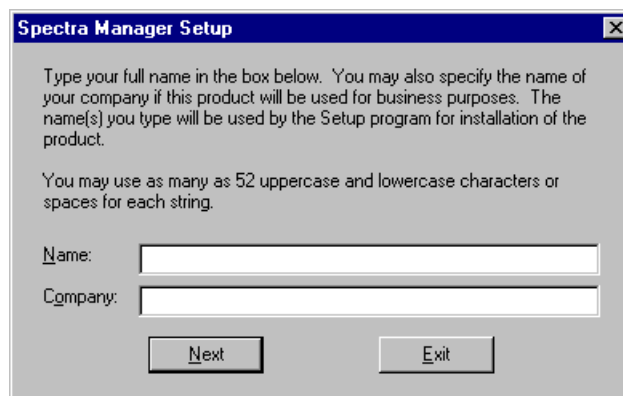

Figure 10.7
- (6) Click the <Next> button. The screen shown in Fig. 10.7. appears.
- (1) Input the name of the operator or company in the text box shown in Fig. 10.7. The name that you input is registered in the system. This procedure can be omitted if registration is unnecessary.